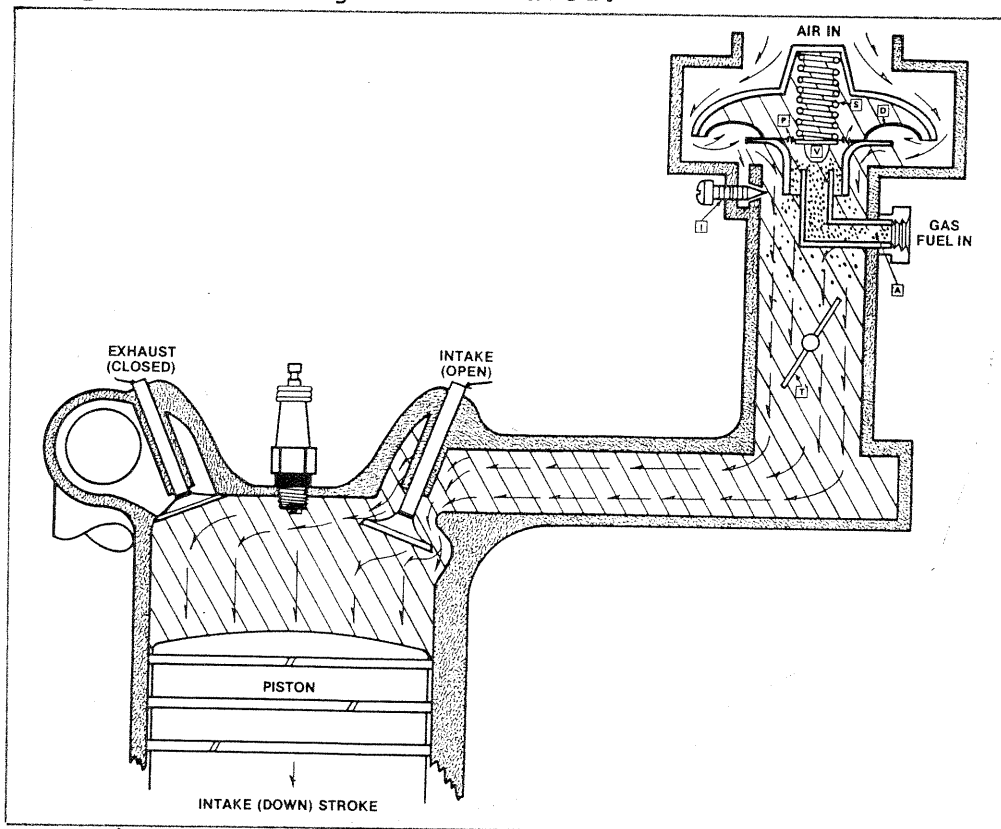

Figure 5.2-C. Carburetor Operating Diagram
5.2.6- TURBOCHARGED NATURAL GAS SYSTEM (Figure 5.2-D)